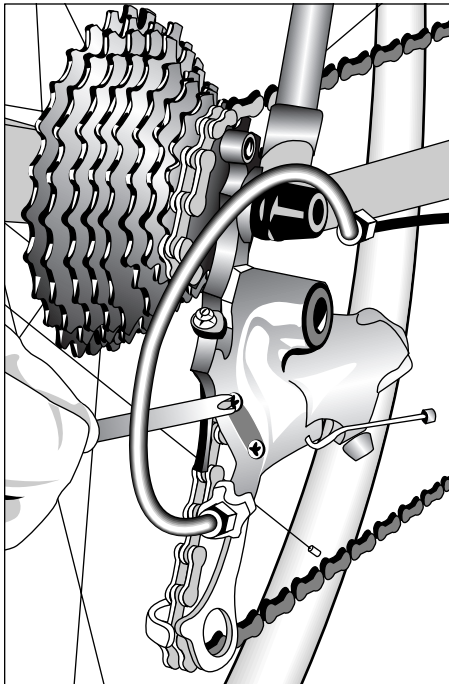

Figure 4-6:
1. Place the chain on one of the larger cogs.**2. Use your hand to push in on the rear derailleur.****3. Tighten the H-limit screw (shown in Figure 4-6) to keep the derailleur in place.**